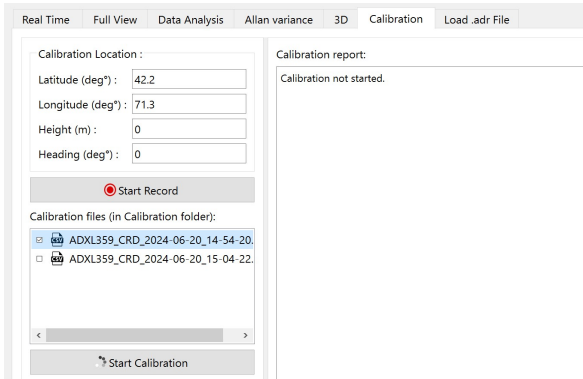

Figure 17. Calibration File Example
4. Stop the recording. A .csv file with the naming convention **SensorName_CRD_year-month-day_hour-minute-second** is created, as shown in Figure 17, where the sensor connected is the ADXL359. This file contains the time domain data from start to finish of the recording.